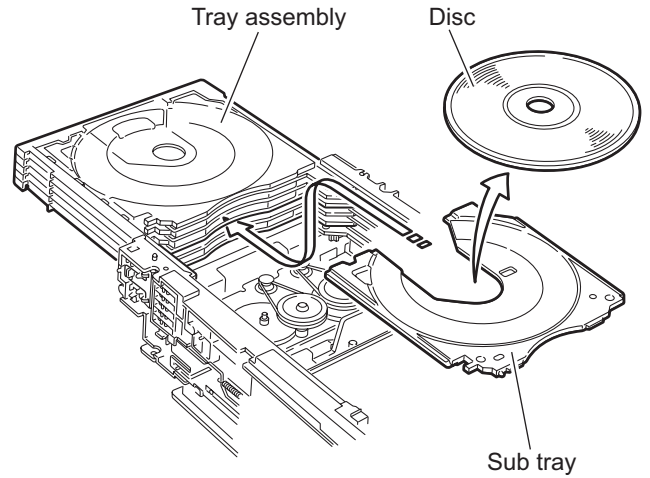
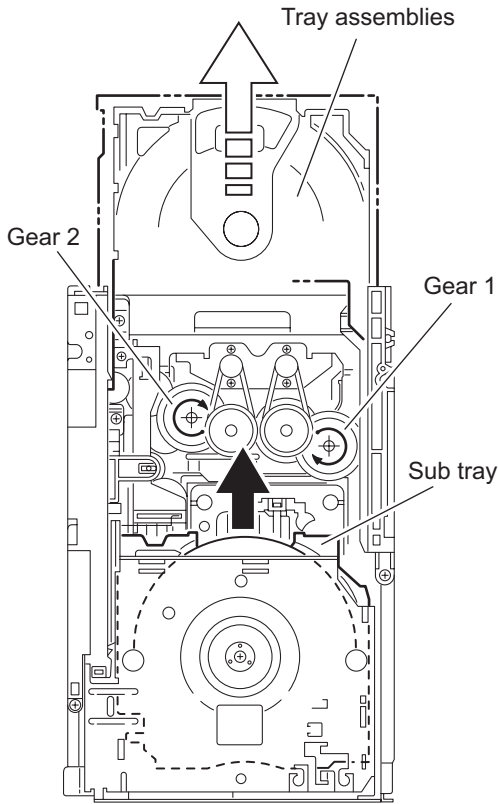

Fig.40
Fig.39
(See Fig.39 to 42)
- (1) From the topside of the DVD mechanism assembly, remove the top cover.
- (2) Unlock the tray assemblies and draw out the tray assemblies toward the front.
- (3) From the top side of the DVD mechanism assembly, turn the gear 1 clockwise to move the lifter assembly upward. (See Fig.39.)
- (4) Turn the gear 2 clockwise to move the sub tray remaining inside the lifter assembly toward the front, then pull out.
- (5) Take out the disc on the sub tray. (See Fig.40.)